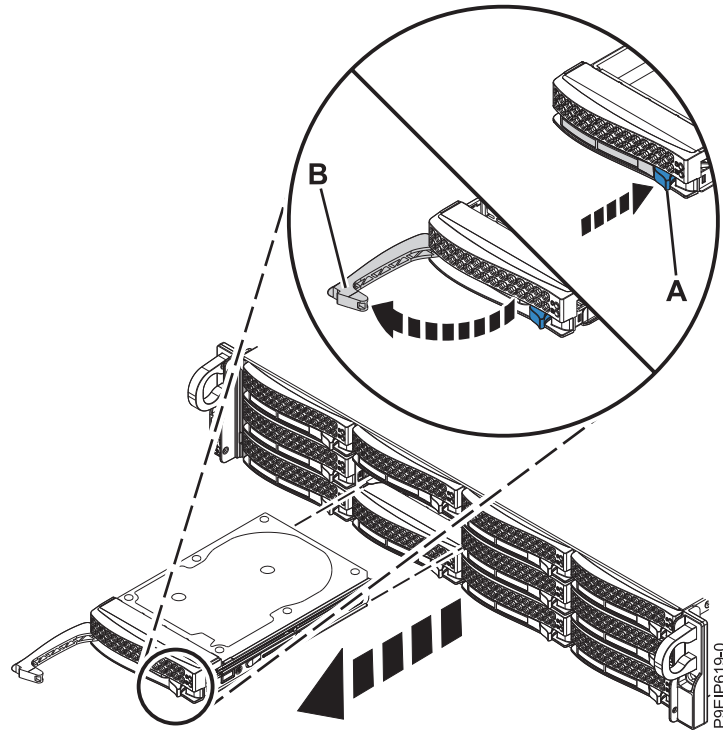

Figure 1. Removing a front drive
3. Unlock the drive bay handle (**B**) by pushing in the handle release (**A**) as shown in Figure 1 on page 4. The handle (**B**) snaps out towards you. If the handle does not snap out all the way, the drive does not slide out of the system.